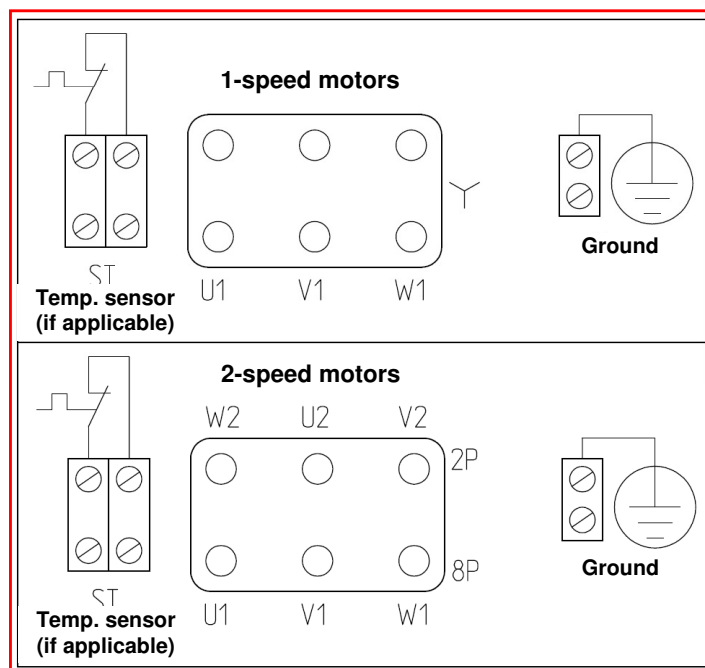

fig. 15
3. Perform the electrical connections on the motor terminals, in relation to their type, as indicated in the electrical diagram (fig. 15), i.e. connect the suitably sectioned four-pole cable to the respective terminals, connecting the yellow/green conductor to the ground terminal and tightening the terminals to avoid bad contacts.